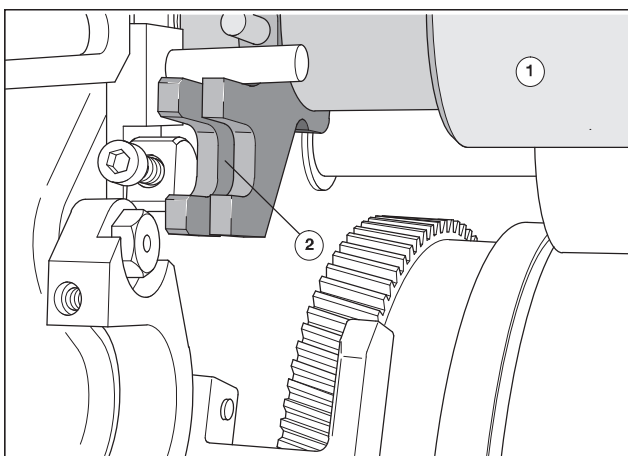
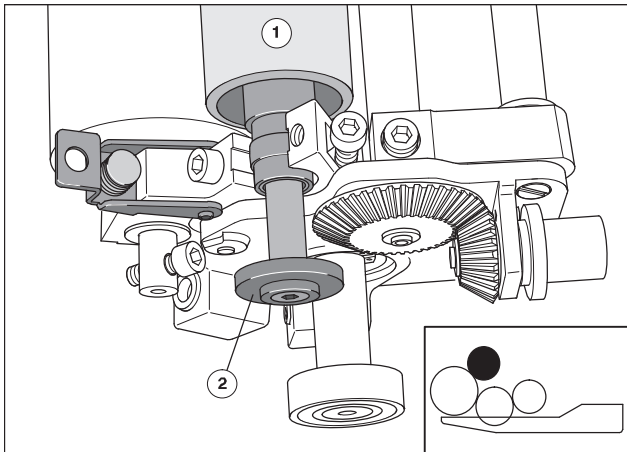
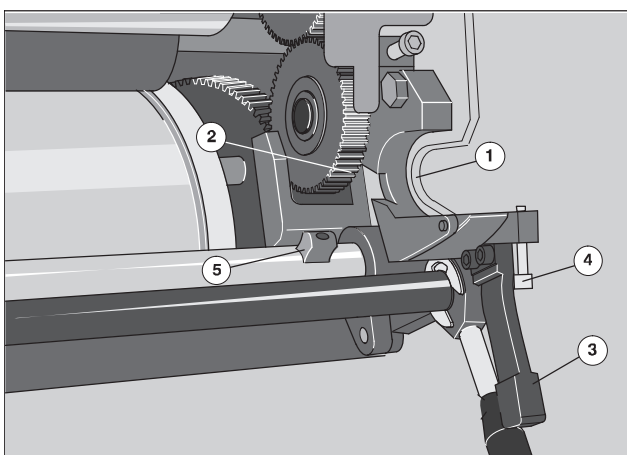

Fig. 47 Driver at the inking unit
Fig. 48 Driver plate of the dampening distributor
Fig. 49 Inserting the dampening system
Before insertion of the dampening system, the ink distributor (Fig. 47/1) must lie at the turning point on O.S.
1. Align the driver plate (Fig. 48/2) of the dampening distributor (Fig. 48/1) corresponding to the driver at the ink distributor (Fig. 47/2).
2. Slightly lift the dampening system forwards and in a tilting motion insert in the bearing shells on D.S. (Fig. 49/1) and O.S. In doing so, ensure correct meshing on D.S. (Fig. 49/2) and engagement of the trip cams (Fig. 49/5). At the same time, insert the driver plate of the dampening distributor (Fig. 48/2) in the driver of the ink distributor in O.S.
3. Fold up the swiveling lever (Fig. 49/3) and screw to the bearing shell with the screw (Fig. 49/4). Proceed on O.S. in the same way.